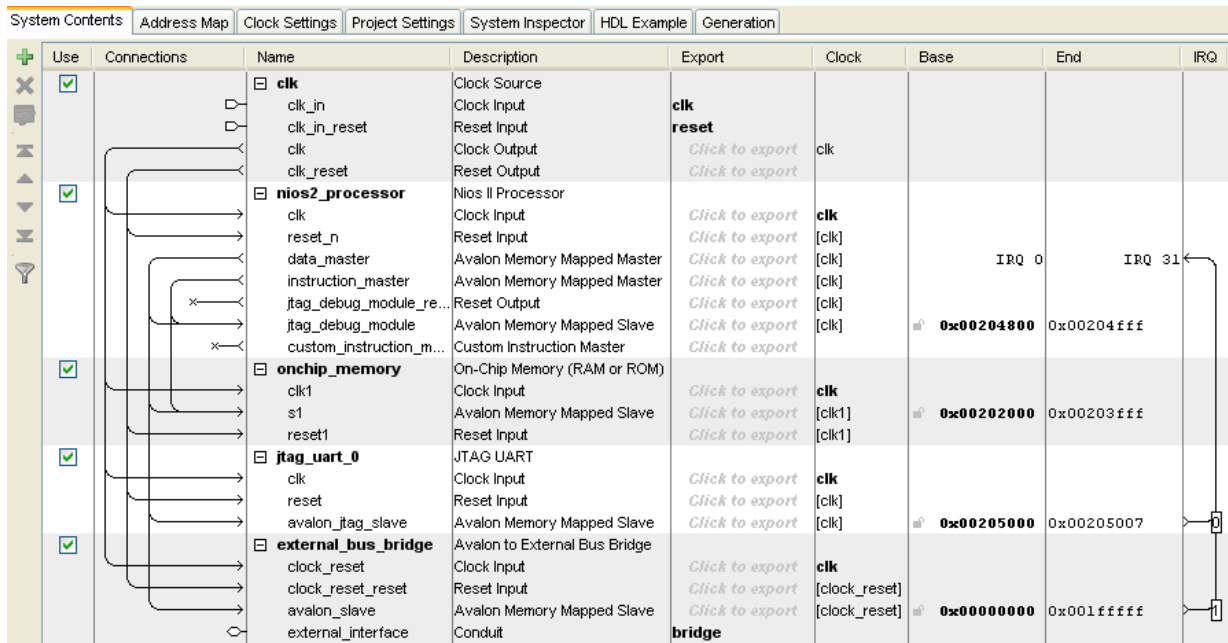

Figure 3: The Nios II system specified in the Qsys tool.
4. From the **System** menu, select **Assign Base Addresses** followed by **Assign Interrupt Numbers**. This will remove any error messages about the address assignment that may be displayed. You should now have the system shown in Figure 3 (the image pertains to the DE2-115 board). Rename the components to the names shown in the figure to match the names used in the design modules provided for this exercise.
1. Create a new project called *Lab10.Part2*. Use the same Qsys project settings as in Part I of this exercise, and generate a Nios II system that corresponds to Figure 3.
2. Use the Qsys tool to generate the system in Figure 3, but choose the address range of 1024 Kbytes for the DE1 and DE2 boards, or 4 Mbytes for the DE2-115 board, for the Avalon to External Bus Bridge component. Note that this will change the base addresses that the Qsys tool will assign to the components of the system.